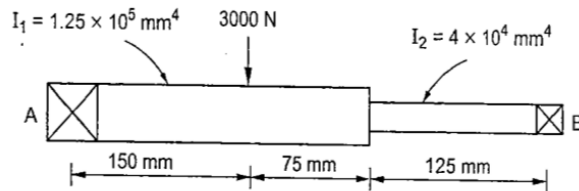

Figure 4
- (b) Find the deflection at the point load and the slopes at the ends for the steel shaft which is simply supported at the bearing A and B as shown in Figure 4. Take $E=200 \text{ GPa}$. [7M]